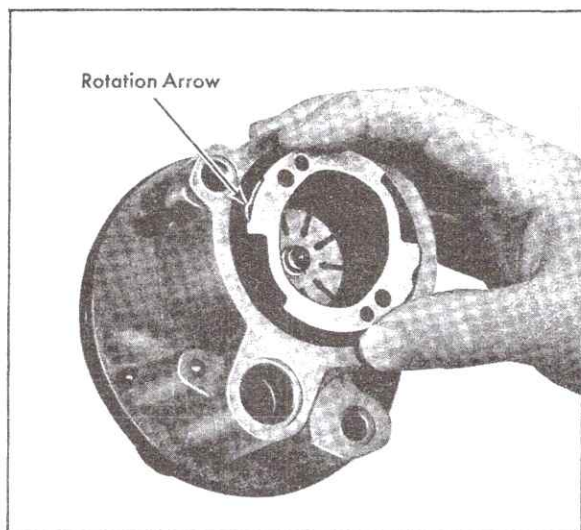

Fig. 9-18 Installing Cam Ring
10. Install cam ring on dowel pins with rotation arrow toward rear of pump housing and pointing in direction of pump rotation, Fig. 9-18. Direction of rotation is counterclockwise when viewed from rear of pump.